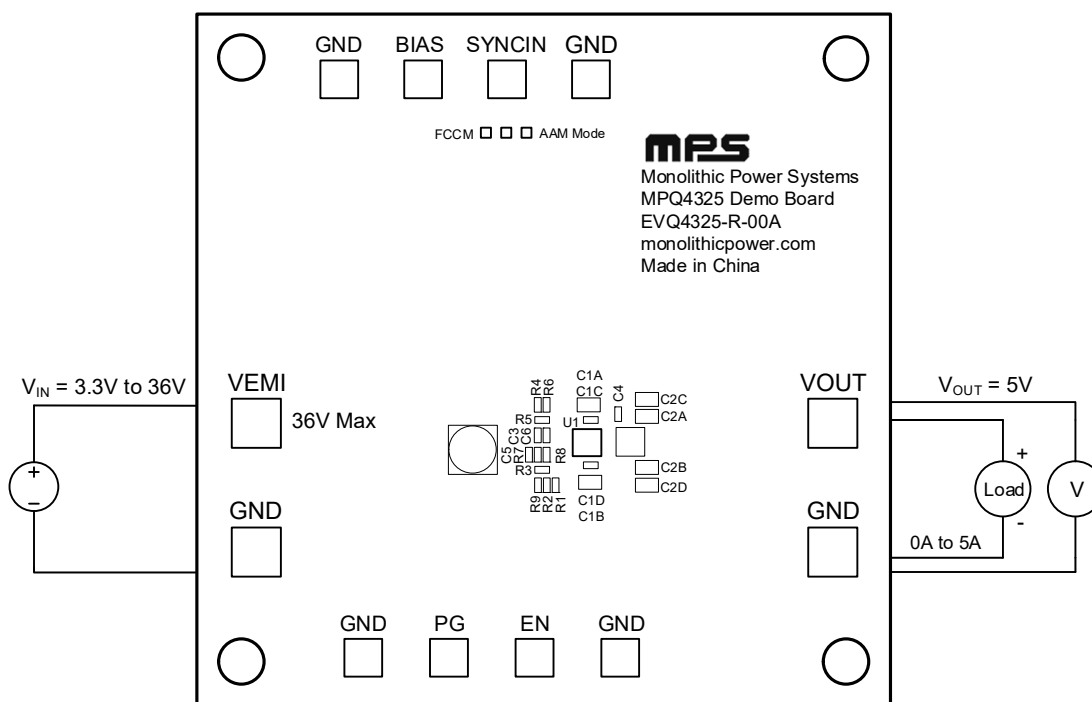

Figure 3: Measurement Equipment Set-Up
The EVQ4325-R-00A evaluation board is easy to set up and use to evaluate the MPQ4325's performance. For proper measurement equipment set-up, refer to Figure 3 on page 5 and follow the steps below:
11. Figure 3 shows the measurement equipment set-up.